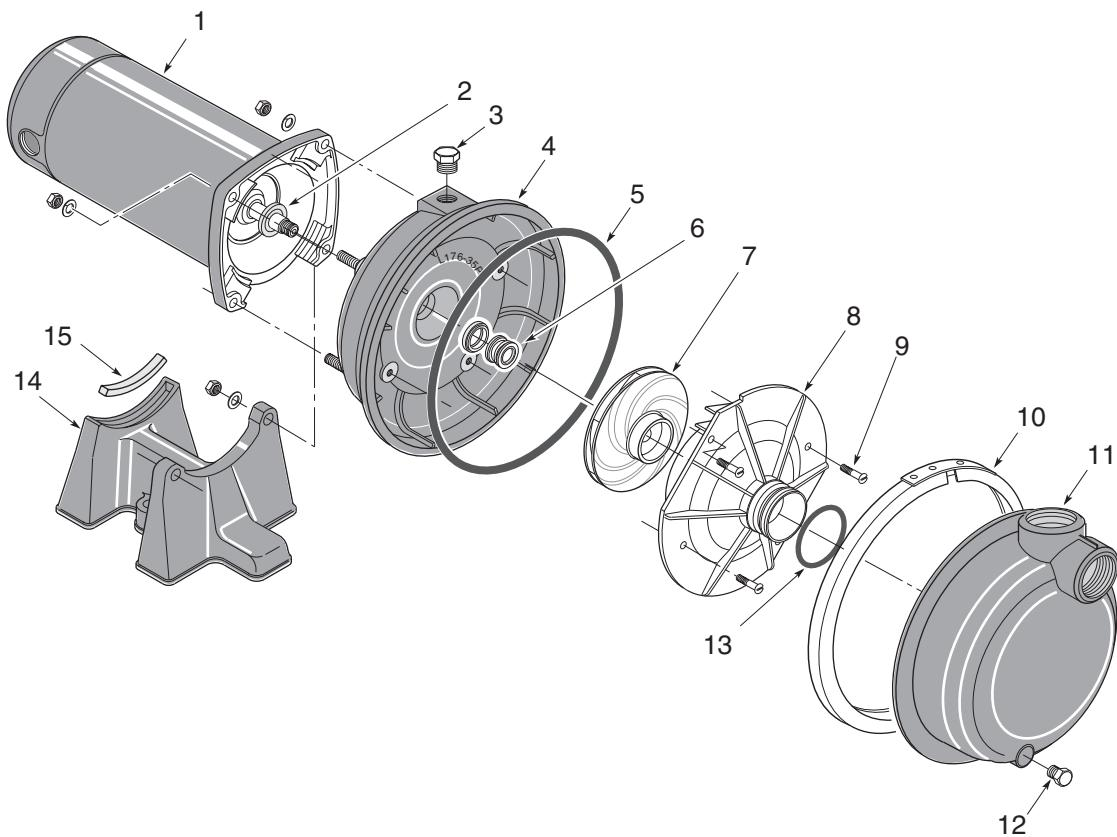

**Figure 27 – Assemble Pump**
2. Put O-ring in groove on face of flange; put pump halves together (see Figure 27).